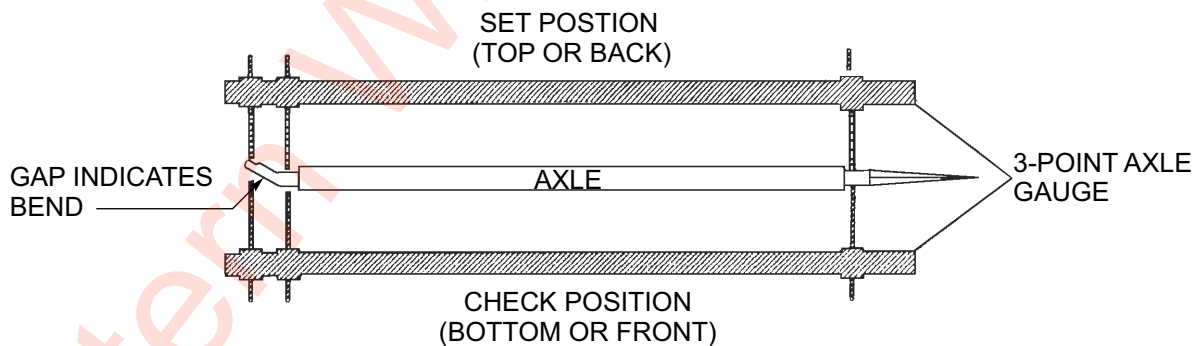

Figure 4-5: Checking Axle for Bend
2. Place a 3-point axle gauge against the front side of the axle, and adjust each axle gauge point to the axle. (Double point end against the inner and outer wheel bearing surfaces of the spindle being checked and the other point on the inner bearing surface on the other spindle (See Figure 4-5.))
3. Move the axle gauge and place against the back side of the axle. If either of the points of double point end fails to touch the axle surface, a bent spindle is evident. A point gap of .015" or more is considered excessive tire "toe" and the axle must be replaced (See Figure 4-5.)